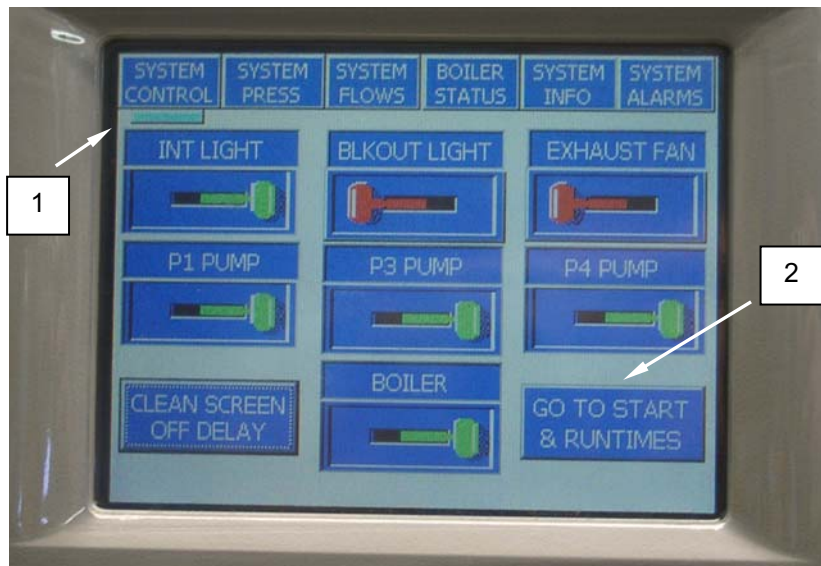

Figure 10. View the Start and Runtimes.
1. Ensure the System Control (**Figure 10, Item 1**) screen is displayed.
2. Touch the GO TO START & RUNTIMES button (**Figure 10, Item 2**).
4. Press the System Control button (**Figure 10, Item 1**) to return to the System Control display.